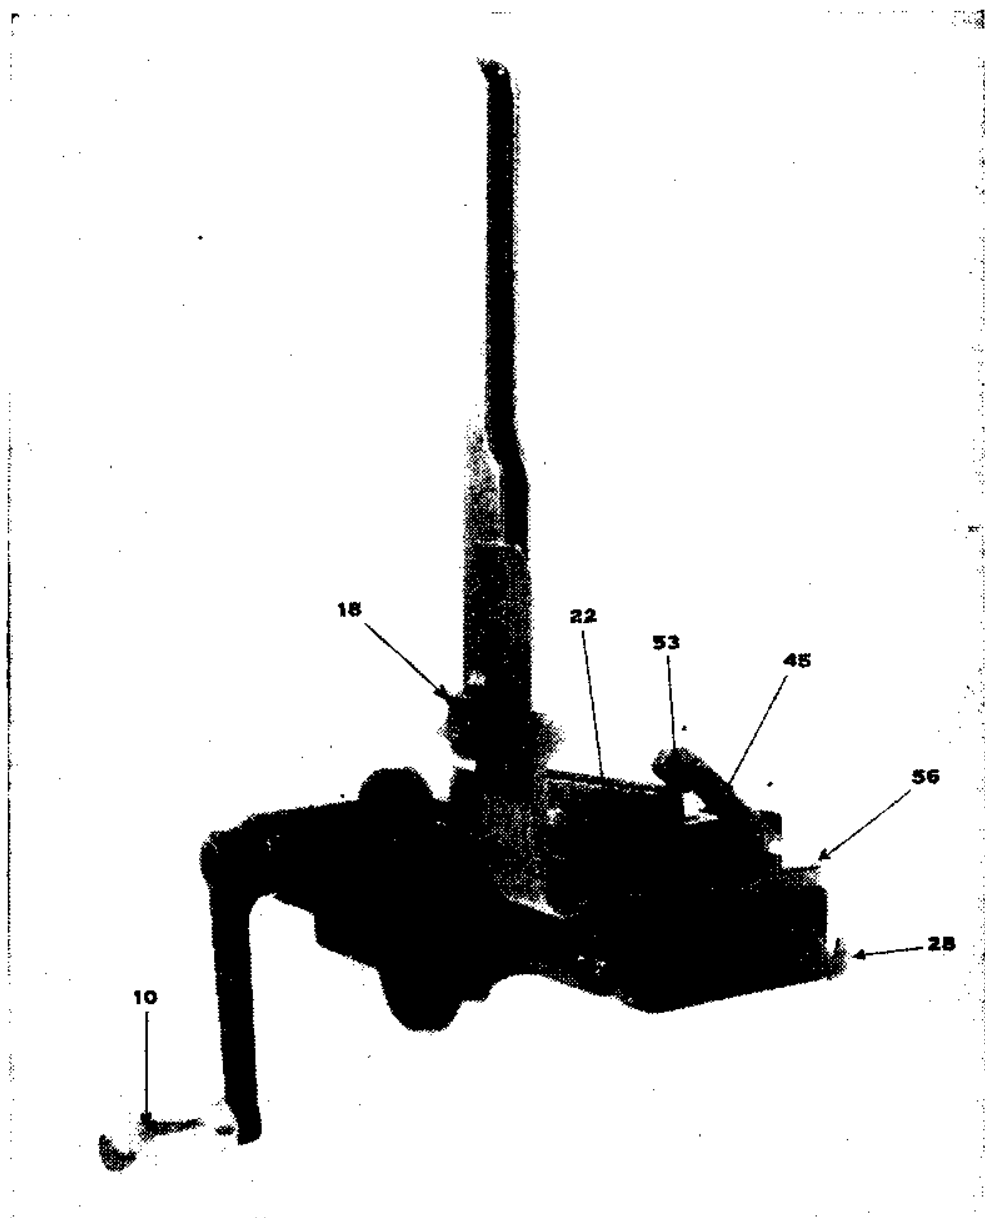

FIGURE 17.—Belt filling machine (web belts).
(2) The spare barrel canvas case with contents is habitually carried strapped to the lower horizontal member of the hanger to balance the pack load laterally. The case should be carried with the opening to the rear. When ammunition has been expended, the case with contents may be strapped to the lower horizontal member of the ammunition hanger on the left side to retain lateral balance of the pack load.
■ 55. BELT FILLING MACHINE (fig. 17).—*a. General.*—This machine is for the rapid filling of fabric (web) belts. It is normally fastened to a table or bench while in use.